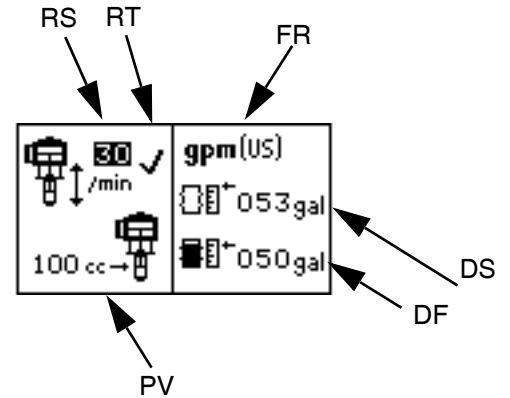

FIG. 22: Setup Screen 1
Use Setup screen 1 to set runaway cycle rate (RS), enable/disable runaway protection (RT), select pump volume per cycle (PV), select flow rate units (FR), enter drum size (DS), and enter drum fill volume (DF). See FIG. 22.
When runaway protection is enabled (RT), a ✓ will appear on the setup screen. See FIG. 22.
To disable runaway monitoring, go to setup mode and set runaway value to 0 (zero) or toggle (RT) off. See FIG. 22.